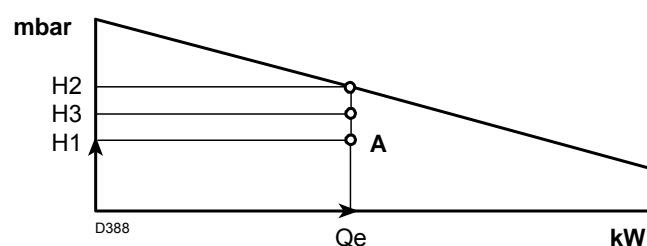

Fig. 41
point A that must remain within the firing rate (Fig. 41)
- 4 -Trace a vertical line from point A, Fig. 41, and find the maximum pressure H2 of the firing rate
If H3 is greater than H1, as in Fig. 41, the burner can produce the delivery requested.